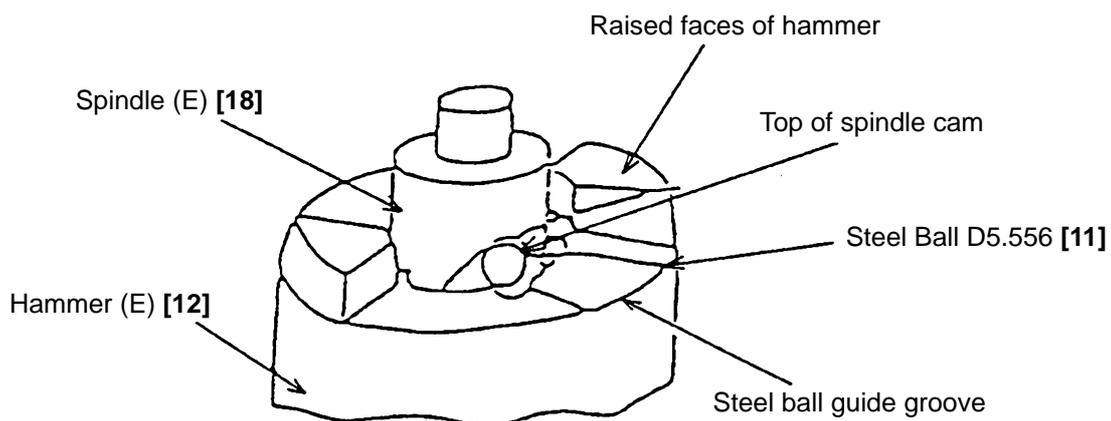

Fig. 7
(b) Align the top of the cam groove on Spindle (E) [18] with the steel ball guide groove on Hammer (E) [12] as illustrated in Fig. 7. Press down either of the raised faces of Hammer (E) [12] with a hand press to compress Hammer Spring (C) [15] until the end surface of Hammer (E) [12] contacts Spindle (E) [18].